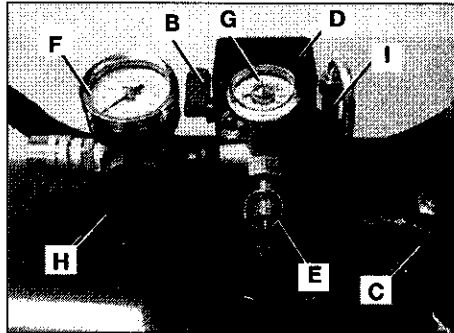

Fig. 2
**OFF Switch (B) Fig. 2:** Turn this switch ON to provide automatic pressure power to the pressure switch and OFF to remove power at the end of each use.
**Check Valve (C) Fig. 2:** When the air compressor is operating, the check valve is "open", allowing compressed air to enter the air tank. When the air compressor reaches "cut-out" pressure, the check valve "closes", allowing air pressure to remain inside the air tank.
**Pressure Release Valve (I) Fig. 2:** The pressure release valve located on the side of the pressure switch, is designed to automatically release compressed air from the compressor head and the outlet tube when the air compressor reaches "cut-out" pressure or is shut off. The pressure release valve allows the motor to restart freely. When the motor stops running, air will be heard escaping from this valve for a few seconds. No air should be heard leaking when the motor is running, or continuous leaking after unit reaches cut-out pressure.
**Pressure Switch (D) Fig. 2:** The pressure switch automatically starts the motor when the air tank pressure drops below the factory set "cut-in" pressure. It stops the motor when the air tank pressure reaches the factory set "cut-out" pressure.
**Safety Valve (E) Fig. 2:** If the pressure switch does not shut off the air compressor at its cut-out pressure setting, the safety valve will protect against high pressure by "popping out" at its factory set pressure (slightly higher than the pressure switch cut-out setting).
**Outlet Pressure Gauge (F) Fig. 2:** The outlet pressure gauge indicates the air pressure available at the outlet side of the regulator. This pressure is controlled by the regulator and is always less than or equal to the tank pressure.
**Tank Pressure Gauge (G) Fig. 2:** The tank pressure gauge indicates the reserve air pressure in the tank.
**Regulator (H) Fig. 2:** The air pressure coming from the air tank is controlled by the regulator knob. Turn the knob clockwise to increase pressure and counterclockwise to decrease pressure. To avoid minor readjustment after making a change in pressure setting, always approach the desired pressure from a lower pressure. When reducing from a higher to a lower setting, first reduce to some pressure less than that desired, then bring up to the desired pressure. Depending on the air requirements of each particular accessory, the outlet regulated air pressure may have to be adjusted while you are operating the accessory.